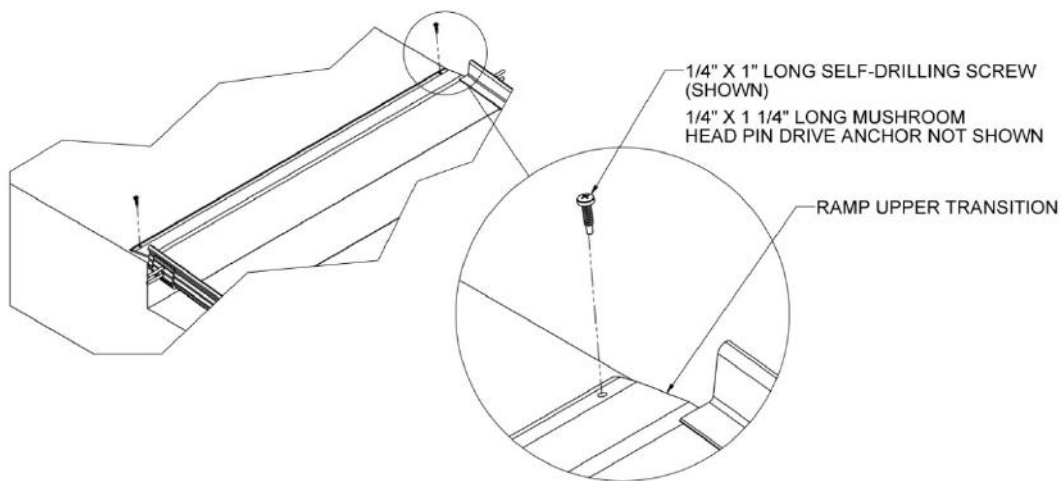

FIG. 3.17
- 3.6.1.1. Secure PRUT (RAMP UPPER TRANSITION) by installing the 1/4" x 1" long self-drilling screw through each hole (FIG. 3.17)